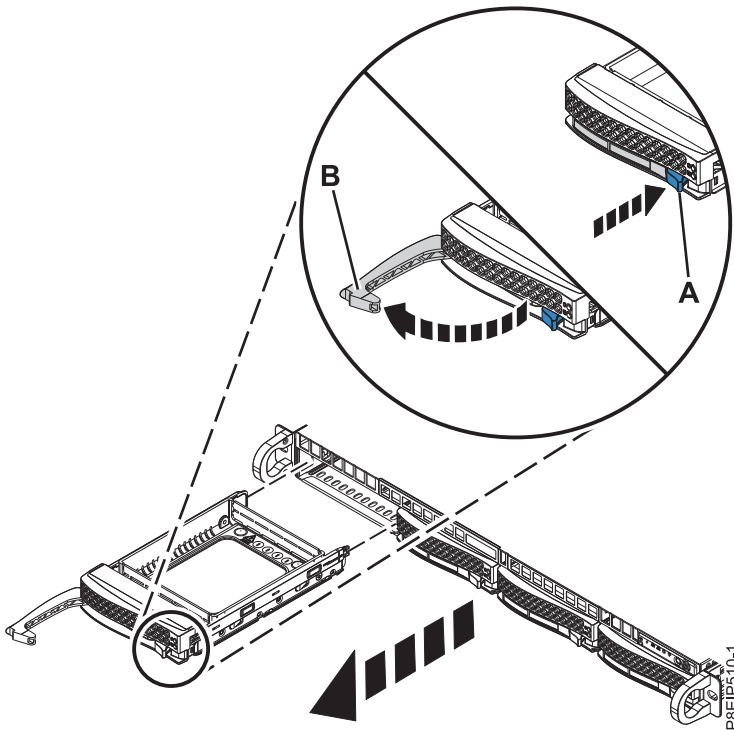

Figure 7. Removing a drive
2. Unlock the drive bay handle (**B**) by pushing in the handle release (**A**) as shown in Figure 7. The handle (**B**) snaps out towards you. If the handle does not snap out all the way, the drive does not slide out of the system.